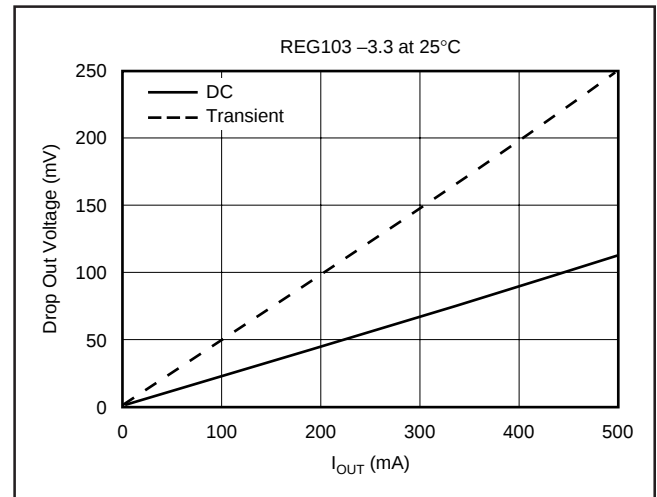

FIGURE 10. Transient and DC Dropout.
regulator's input-to-output resistance is the $R_{DS(ON)}$ of the DMOS pass element (typically $230m\Omega$). For static (DC) loads, the REG103 will typically maintain regulation down to V_{IN} to V_{OUT} voltage drop of $115mV$ at full rated output current. In Figure 10, the bottom line (DC dropout) shows the minimum V_{IN} to V_{OUT} voltage drop required to prevent drop-out under DC load conditions.
For large step changes in load current, the REG103 requires a larger voltage drop across it to avoid degraded transient response. The boundary of this "transient drop-out" region is shown as the top line in Figure 10. Values of V_{IN} to V_{OUT} voltage drop above this line insure normal transient response.